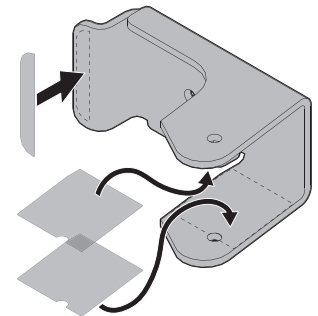

Figure 29
1. Before assembly, peel the adhesive decals from the sheet and apply to the inside faces of the right and left weight hanger brackets, as shown in Figure 29.